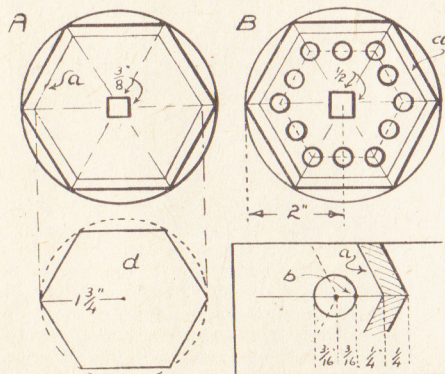

Fig. 2—How to make the shapes
The six-sided shapes are then scribed out, the one as (A) and the other as (B), Fig. 2. On both shapes lightly mark in the radii from the six points to the centres and put in the line (a) which is a $\frac{1}{4}$ in. from the points, along the radii, that is a shade less from the outside edges.